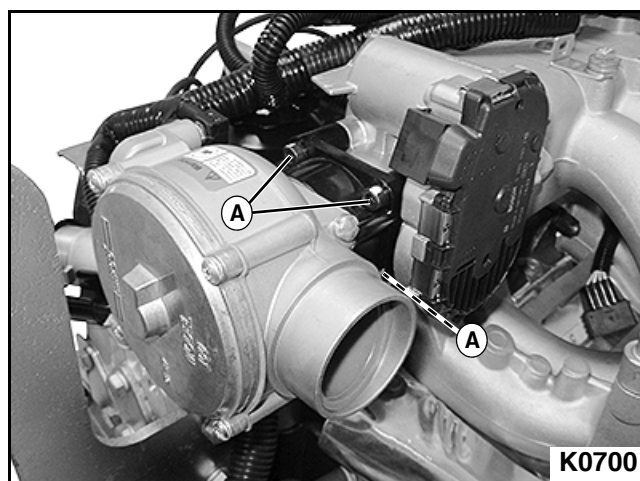

Figure 3-41
4. Install the air-fuel mixer valve and throttle body to the upper intake manifold as a unit. Secure with four socket head cap screws (A). **See Figure 3-41.**